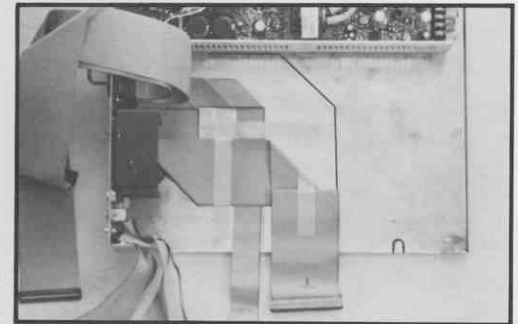

Figure 45 Folding the Disk Command Cable
- 4.21 Cut a 4" length of filament tape. Fold the disk command cable back on itself and tape as shown in Figure 45.